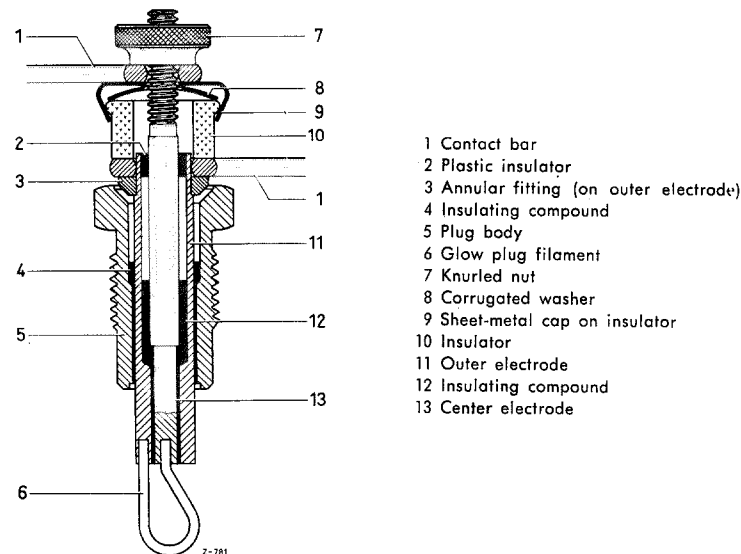

Fig. 15-31/1
Fig. 15-31/1 shows the constructional details of a glow plug. According to the position of the plug the current is supplied by a contact bar (1) or a connector cable to the center electrode (13) or to the annular fitting (3) on the outer electrode (11). The center electrode (13) and the outer electrode (11) are connected by the glow plug filament (6). The two electrodes are insulated from one another by the insulating compound (12) and are insulated against the body of the plug (5) by the insulating compound (4). Furthermore a plastic insulator (2) has been installed at the upper part of the glow plug between the outer and the center electrode. The insulator (10) insulates the two current connections. The corrugated washer (8) on the insulator works as a lock for the knurled nut (7) (see Fig. 15-31/1).